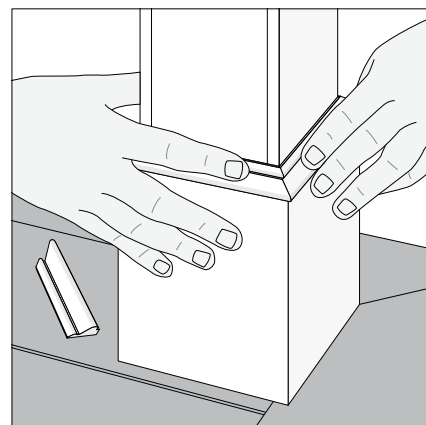
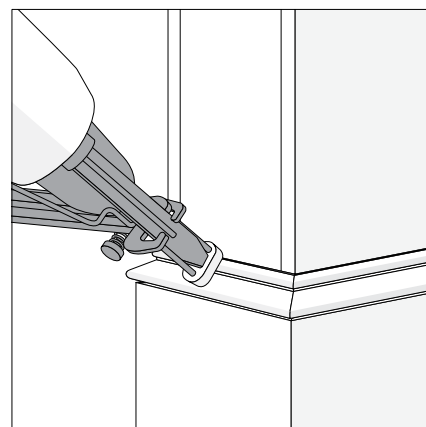

Fig. 8a
Fig. 8b
- Place two moulding pieces onto the KLEERWrap Post Wrap forming a 90° angle (**Fig. 8a**) and secure in place using stainless steel or galvanized brads or finish nails (**Fig. 8b**).